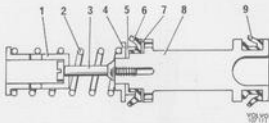

Fig. 5-48. Primary Piston
3. Assemble the new primary piston according to Fig. 5-48 and fit it as shown in Fig. 5-49. Press in the piston and fit washer (10, Fig. 5-32 and circlip (11).